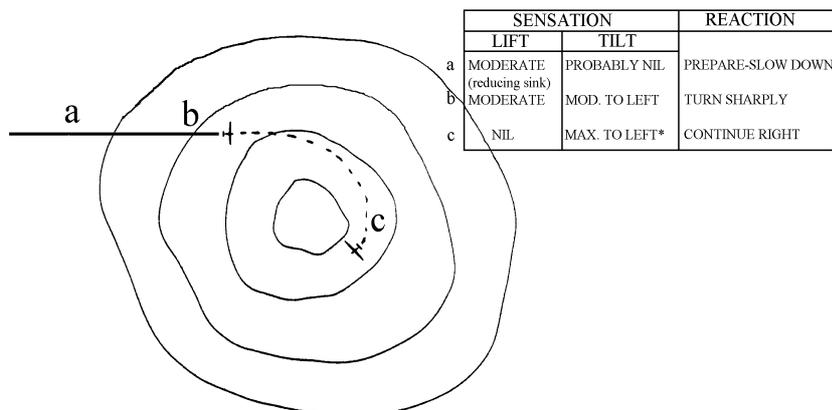

FIG 5. ENTERING MIDWAY BETWEEN EDGE AND CORE
6. If the thermal is contacted mid-way between edge and core (**Fig. 5**) the physical sensations will have changed to **moderate lift** - rather more contours being traversed in the flight direction - and **moderate tilt** - the wings are no longer directly across the contours. The response should be a sharper turn in the direction of the rising wing.